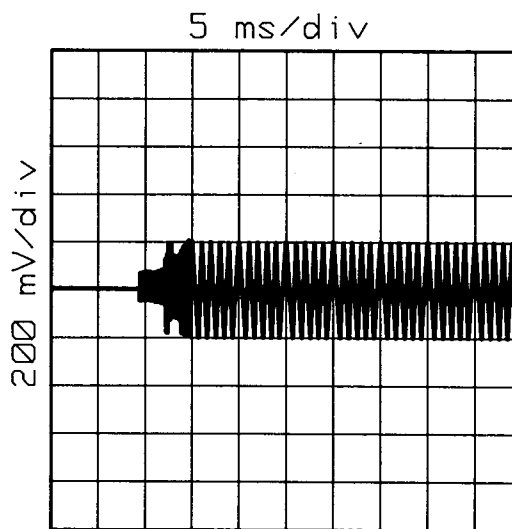

Figure 4-13. Frequency Switching Waveform
9. Using the **FREQ INCREMENT** keys, reset the Signal Generator's frequency to the start frequency (3 000.000 MHz). Press the digitizer (**STORE M1**) key on the oscilloscope and then use the appropriate **FREQ INCREMENT** key to step the Signal Generator to the stop frequency (2 000.000 MHz). The oscilloscope should digitize the switching waveform as the frequency changes. The waveform should be similar to the waveform shown in Figure 4-13.